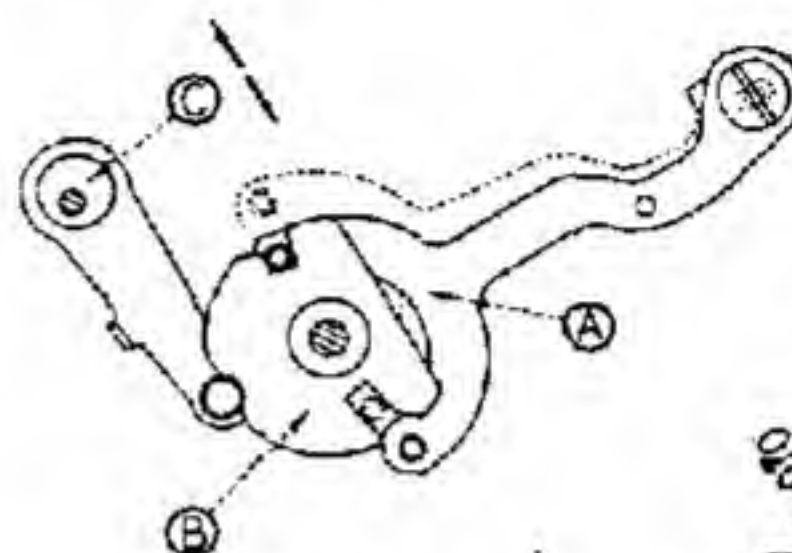

FIG. 1
39. SPLIT CLEAR LOCK MECHANISM: Fig. 1. Dials Locked Position, upper end of Latch A should clear Notch on Slide B .002 to .008. Adjust by Eccentric C.
51. RETURN CLEAR BELL CRANK ASSEMBLY: Fig. 1. Carriage Clear Key depressed, Interlock
Fig. 3. With a Multiplier Key depressed, Interlock Link D should clear under Lip of Interlock Blocking Lever E a minimum of .005. Adjust at F. With Dividend Tabulator Key depressed, Lip on E should clear D a minimum of .005. To obtain more clearance form Lever G rearward, Fig. 1.
62. CENTRALIZER ARM FOR COUNTER REVERSE: Fig. 1. Studs on Reverse Lever A should have equal clearance in both upper and lower slots in Reverse Disc B. Adjust Eccentric C. Fig. 2. In Normal Position Arms of Counter Oscillator A and B should be positioned so Stud in B is engaged in Cam C approximately .030 and Stud in Arm A has .010 clearance. Adjust by forming A and B.
69. CAM FOR DIVISION THROWOUT: Fig. 1. As Point A of Throwout Actuator reaches high point on Roller B, first tooth of Intermittent Gear C should contact tooth of Division Control Gear D, as shown. To adjust, loosen Screw E and rotate Cam F on Shaft G.
76. BLOCKING ARM (EXTRA TRANSFER IN DIVISION): Fig. 1. Machine in Division, Stud A should have approximately .030 bite on Lever B. Adjust at C, and note slight amount of end play in Shaft D for free action.
98. ADD-SUBTRACT GATE DELATCH LEVER: Fig. 1. In Normal Position, Trip Lever A should clear end of Delatch Lever B .005 to .015. Adjust by forming Shift Lever at C to allow Trip Lever A to drop back to the desired clearance. Fig. 2. Machine in Dividend Tabulation and Carriage shifting to the right, Trip Lever A should move over lip on Delatch Lever B with no more than .002 to .005 clearance. Adjust by forming Lever B at D.
101. COUNTER BLOCKING LEVER ACTUATOR LEVER: Fig. 1. When Dividend Tabulator Key 2 is depressed, Lip of Lever A should clear under Latch Lip B .005 to .015. Fig. 2. When Lever C is tripped, Lip B should drop behind Lip A. Adjust by forming Lip A. In this position, Blocking Lever D should be approximately centered under Counter Blocking Lever E. Adjust by forming at F.